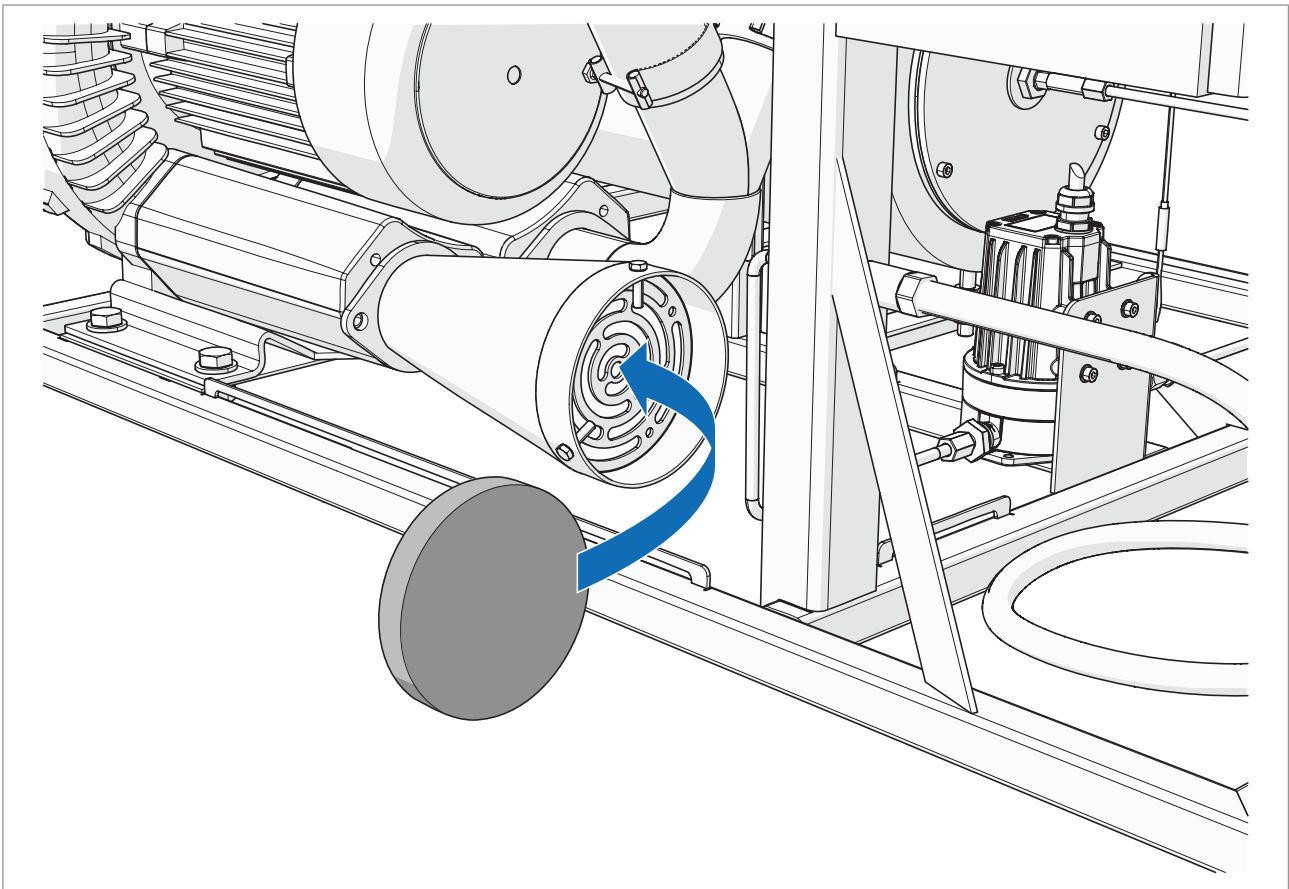

Figure 4 Placing a clean air filter
4. Place a clean air filter in the air filter holder (see figure 4).